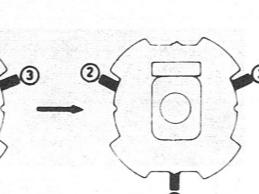

Figure 3c
6. Remove wedge 1 and place it in the final position as shown in Figure 3c or 4c. Reconnect resistor R723 to turn on the green gun.